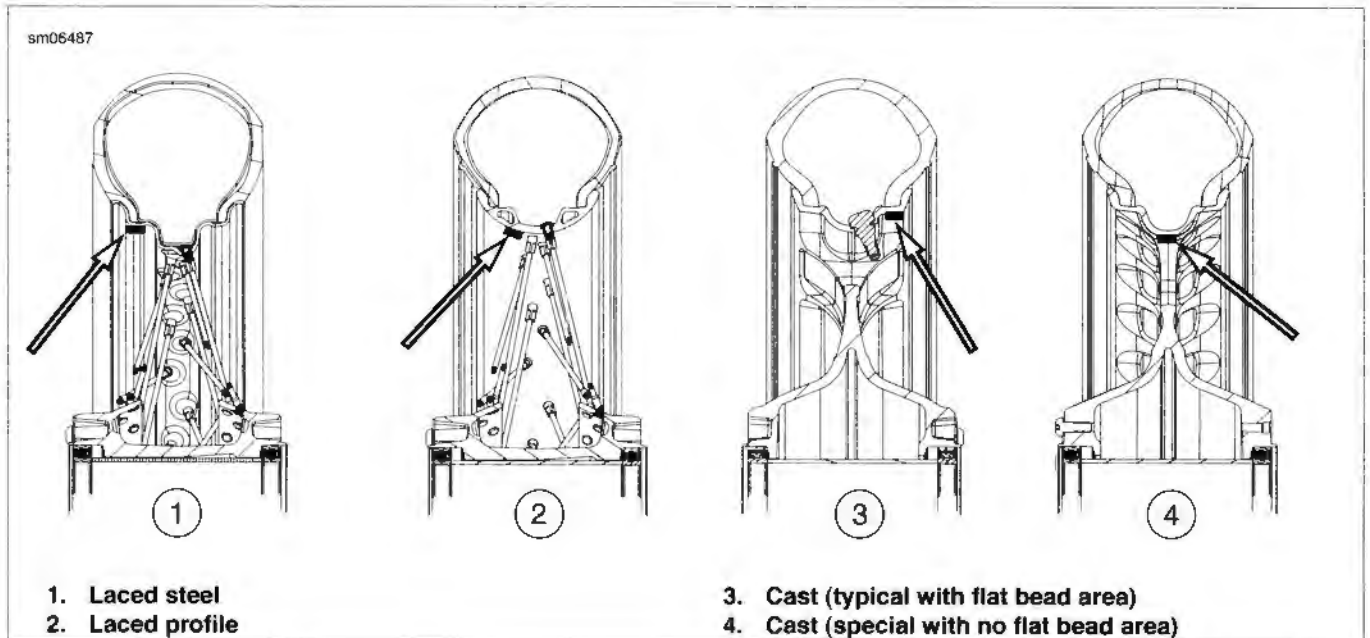

Figure 2-61. Wheel Weight Placement
Use self-adhesive wheel balance weights for all Harley-Davidson wheels, placed as indicated in Figure 2-61 depending on wheel style.
- On cast wheels without a flat area near the bead, such as the cast special wheel (4) shown in Figure 2-61, it is acceptable to place them crosswise through the opening.
1. See Figure 2-61. Place weights on a smooth surface of the wheel rim such that centrifugal force will help keep them in place. Make sure the area of application is completely clean, dry, and free of oil and grease.